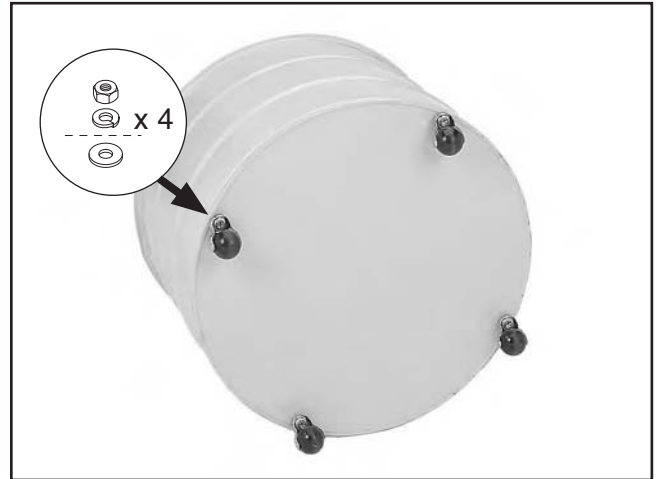

Figure 19. Dust collection drum casters installed.
10. Attach the casters to the bottom of the drum using (4) $\frac{3}{8}$ "-16 nuts, (4) $\frac{3}{8}$ " flat washers, and (4) $\frac{3}{8}$ " lock washers (see **Figure 19**).